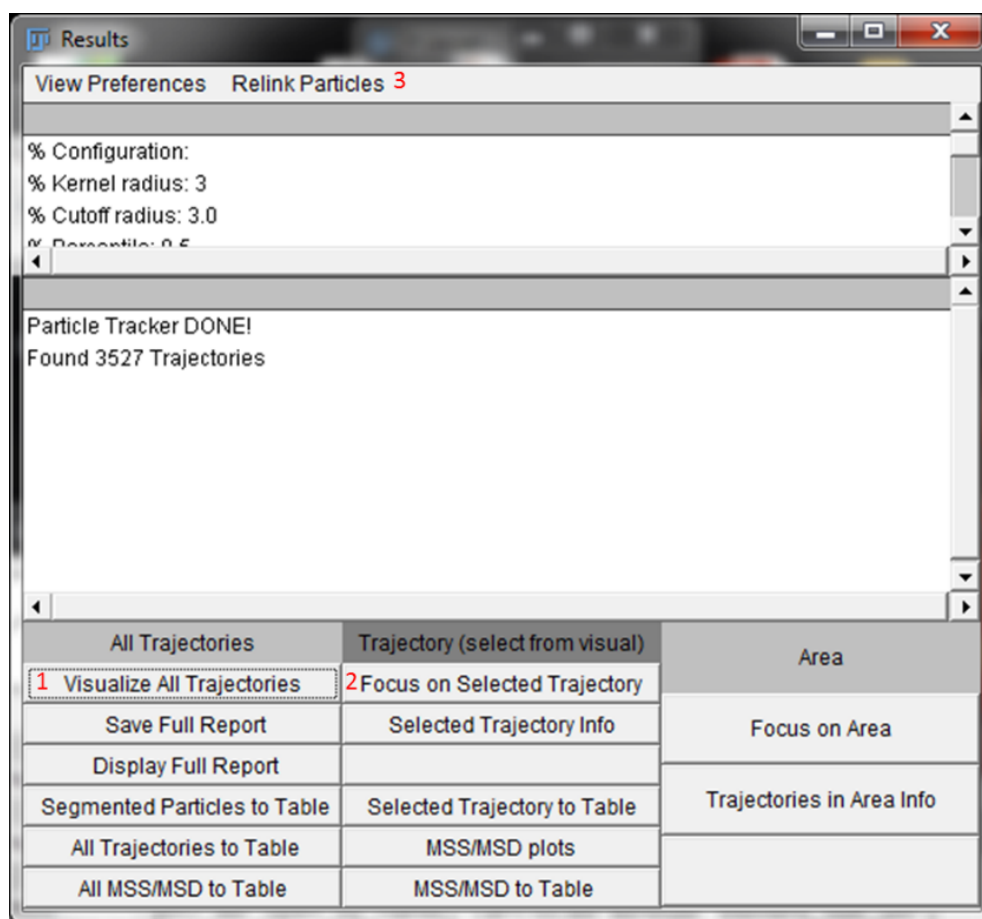

Figure 12. Mosaic Results Window.
9. OK. This initiates the Mosaic plugin. The algorithm will proceed first by detecting particles in each track, using parameters 1-3. It will then link each particle into tracks using parameters 6-8. Once it has completed, a new window will appear, as shown in Figure 12.